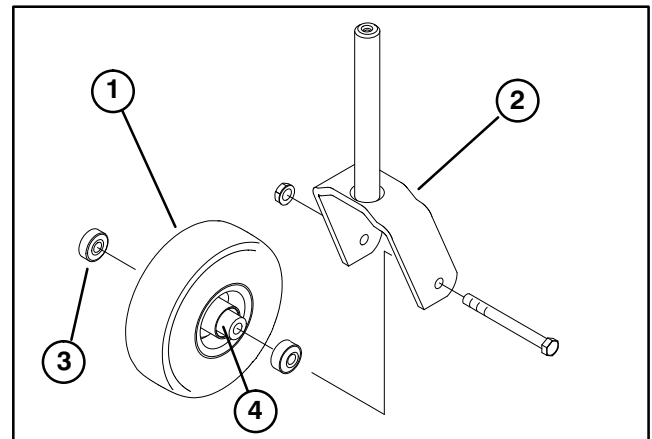
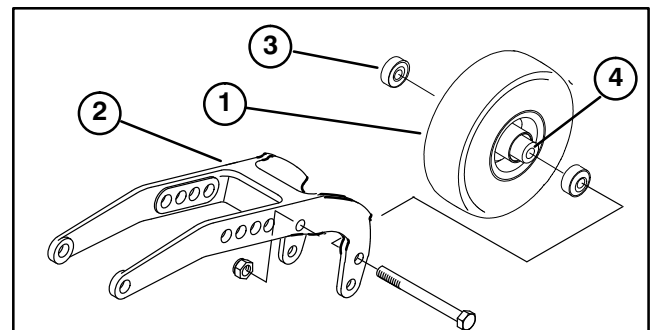

Figure 23
Figure 24
SERVICING CASTOR WHEELS AND BEARINGS (Fig. 23–24)
2. Remove locknut from capscrew holding castor wheel assembly between front castor fork (Fig. 23) or rear castor pivot arm (Fig. 24) Grasp castor wheel and slide capscrew out of fork or pivot arm.